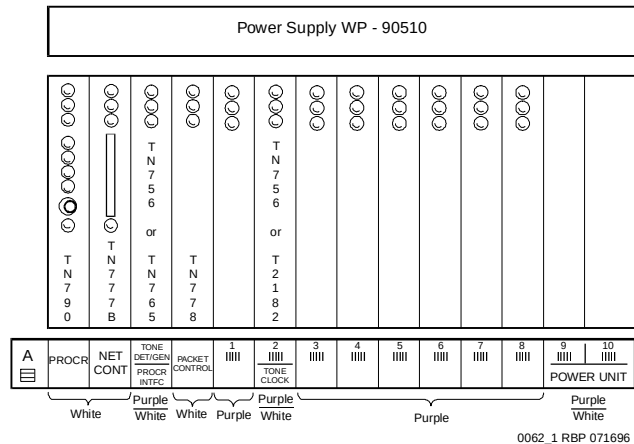

Figure 2-6. Circuit-Pack Locations in G3vs V4 Wall-Mounted Cabinet
1. Label each port circuit pack in the old system with its slot number. See Figure 2-6.